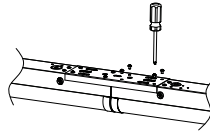

Figure 10
- Step 2. Align the other lamp to the bracket and lock the screws (Figure 10)